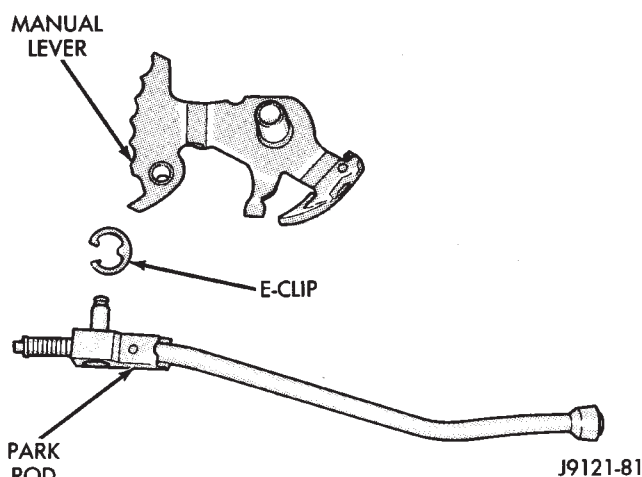

Fig. 44 Park Rod
(10) Remove park rod E-clip and separate rod from manual lever (Fig. 44).